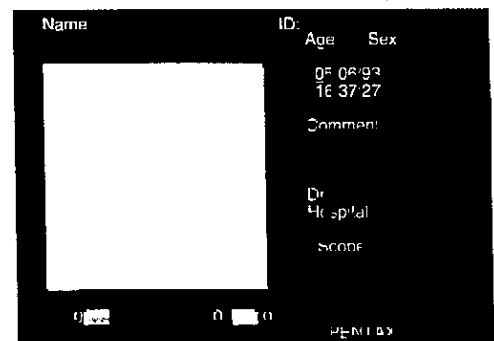

Fig. 22
3. The screen cursor will appear as a flashing underline on the first character of the Date (Fig. 22).